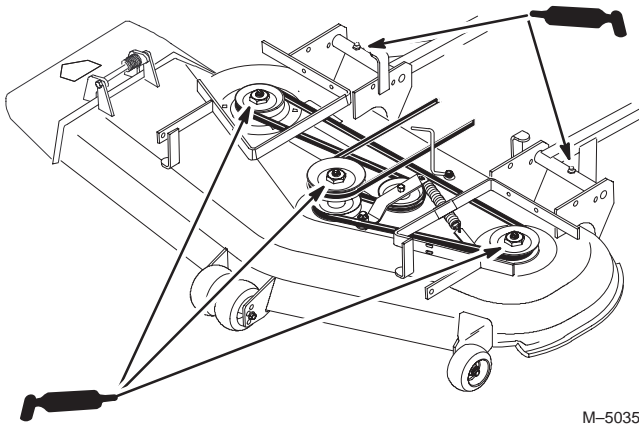

Figure 46
2. Grease the fittings on the three spindle bearings until grease comes out lower seals (Fig. 46).
3. Grease the fittings on the push arms(Fig. 46).